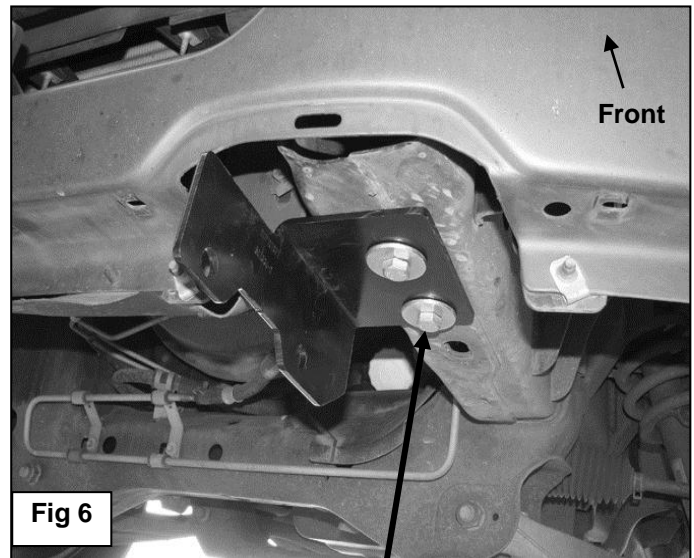

Fig 6
- Starting on the driver side of the vehicle, insert (1) 12mm Double Nut Plate through the opening in the open front end of the frame, (**Figures 5A & 5B**). Line up the threaded hex nuts on the Nut Plate with the (2) factory holes in the bottom of the frame channel. Hold the Nut Plate in position with (1) 12mm x 40mm Hex Bolt, (1) 12mm Lock Washer and (1) 12mm x 44mm Large Flat Washer partially threaded into the rearmost threaded hole in the Nut Plate, (**Figure 6**).
- c. Select the driver side Frame Mounting Bracket. Slide the slot in the Bracket under the 12mm Hex Bolt and Washers. Line up the remaining hole in the Bracket with the forward hole in the Nut Plate. Insert (1) 12mm x 40mm Hex Bolt, (1) 12mm Lock Washer and (1) 12mm x 44mm Large Flat Washer into the remaining hole in the Bracket, (Figure 6). Snug but do not fully tighten hardware at this time.